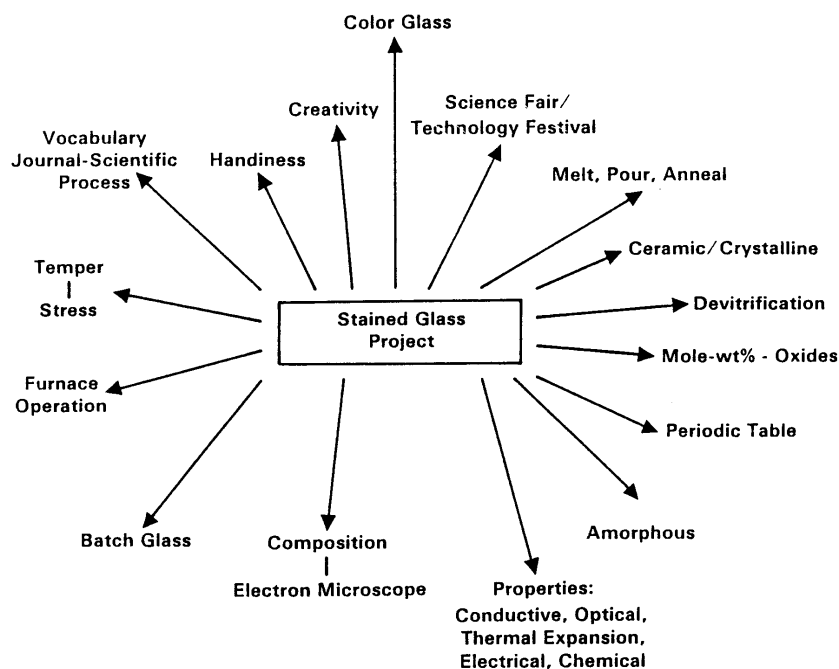

Figure 6.6. Diagram of the Multicomponent Conceptual Learning Students Encounter as they do a Stained Glass Project
1. This activity generates a lot of enthusiasm. It is a good example of the multicomponent conceptual learning process students encounter as they do the stained glass project (see Figure 6.6).